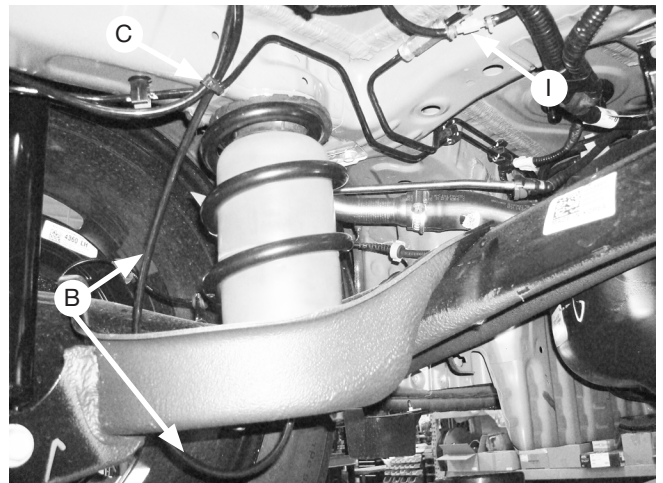

Fig. 7
6. Route the air line (B) through the lower control arm and up to the crossmember on the underside of the unibody. Leave sufficient slack for suspension articulation. Install a tee (I) (if single fill is desired) or route the air lines along the brake lines under the crossmember (Fig. 7) to the area you have chosen for the Schrader valves (J). Secure air lines with zip ties (C) provided. Keep air line away from any heat source. Proceed to the air line installation instructions.